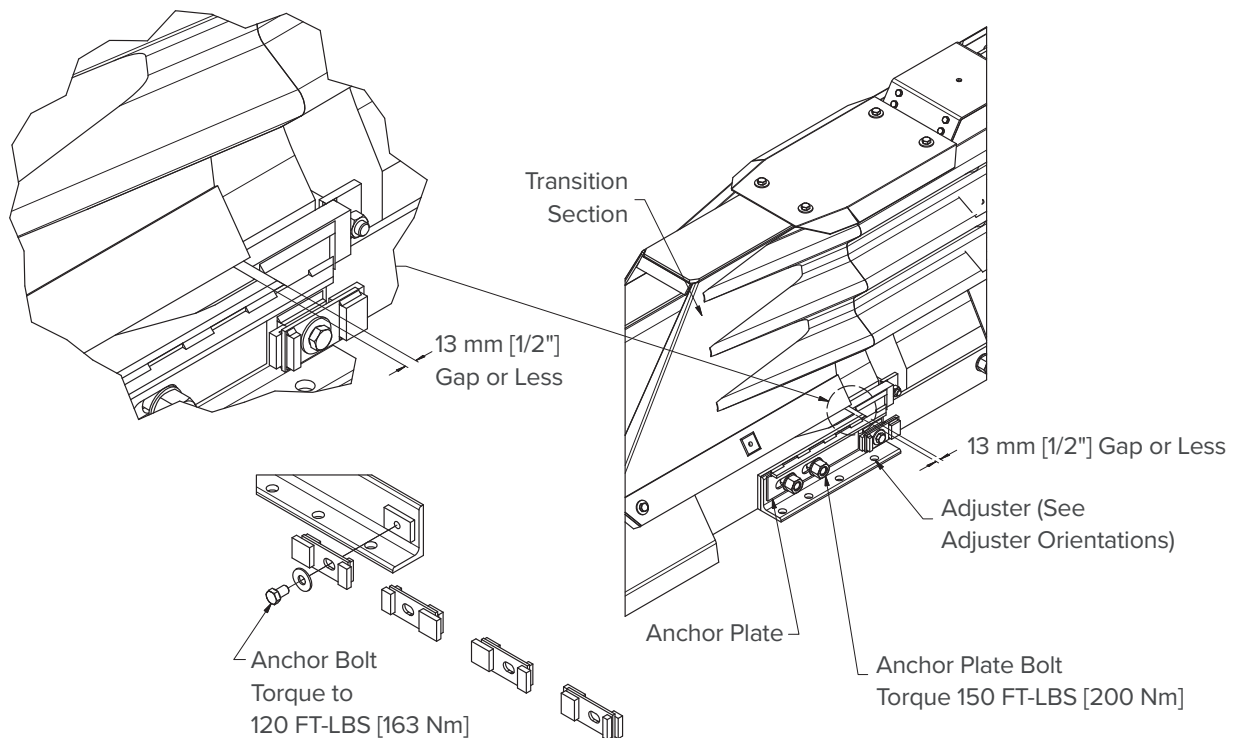

Figure 23
2. **Close the gate and inspect the Anchor Plate fit with the gate Transitions** (Figure 23). Inspect the fit of the four Anchor Plates where they meet the gate Transition. Proper fit is obtained when there is a 1/2" [13 mm] gap or less between the Plate and the Transition with the gate fully closed. If the gap is excessive then the Transition Adjuster must be used to decrease the gap. Loosen the bolts that retain the Anchor Plate and remove the Adjuster. Reassemble the Adjuster in the orientation that reduces the gap to 1/2" [13 mm] or less then tighten the Anchor Plate bolts to 150 ft-lb [200 N-m].